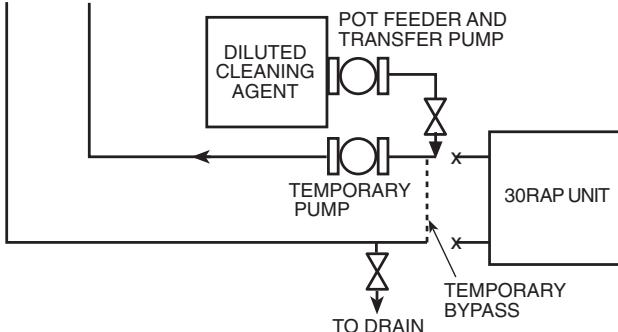

Fig. 21 — Typical Set Up for Cleaning Process
1. Install a temporary bypass around the chiller to avoid circulating dirty water and particulates into the pump package and chiller during the flush. Use a temporary circulating pump during the cleaning process. Also, be sure that there is capability to fully drain the system after cleaning. See Fig. 21.